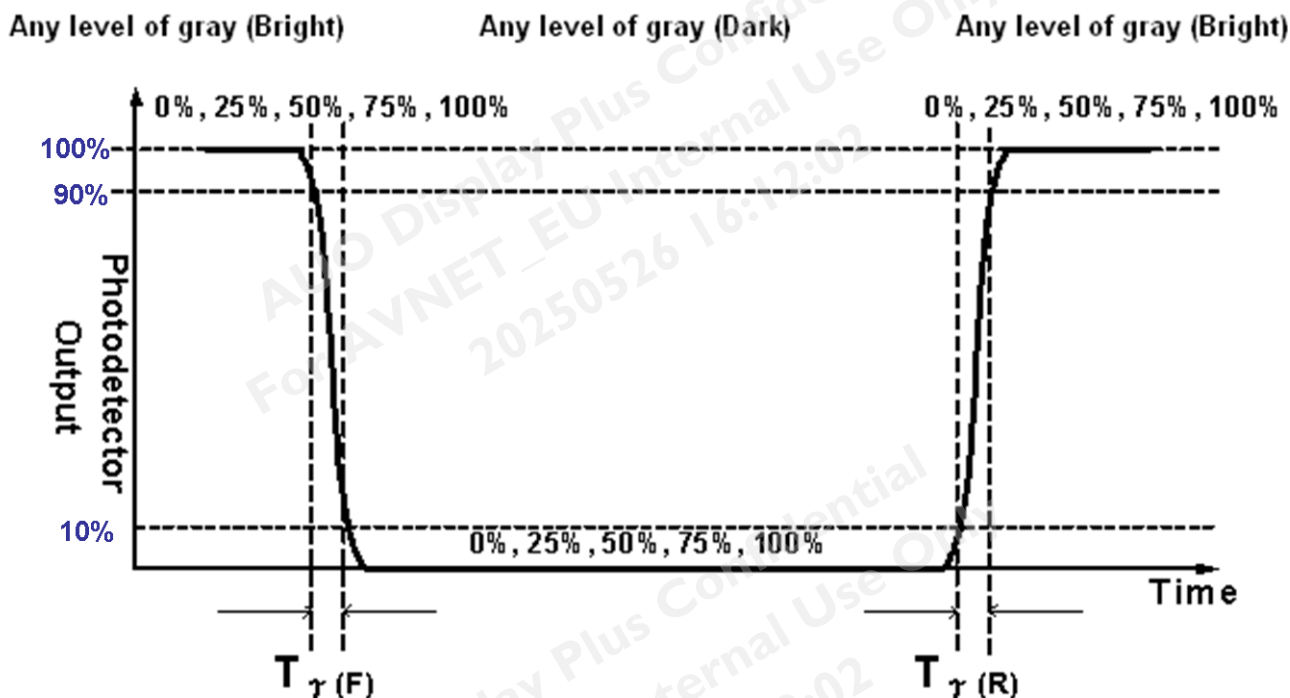

Fig. 2 Luminance
2. Surface luminance is luminance value at point 5 across the LCD surface 50cm from the surface with all pixels displaying white. From more information see **Fig. 2**. LED current I_F = typical value (without driver board), LED input $V_{DDb} = 24V$, I_{DDb} = Typical value (with driver board), $L_{WH} = L_{on5}$ where L_{on5} is the luminance with all pixels displaying white at center 5 location.